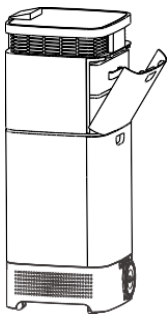

Figure 1
10.4 The upper back plate removed from the machine (Figure 1).